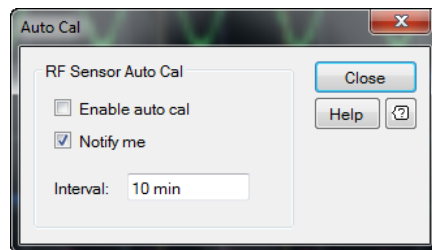

Figure 2-133 Auto Cal dialog
- 2 The Auto Cal dialog is displayed as shown in Figure 2-133.